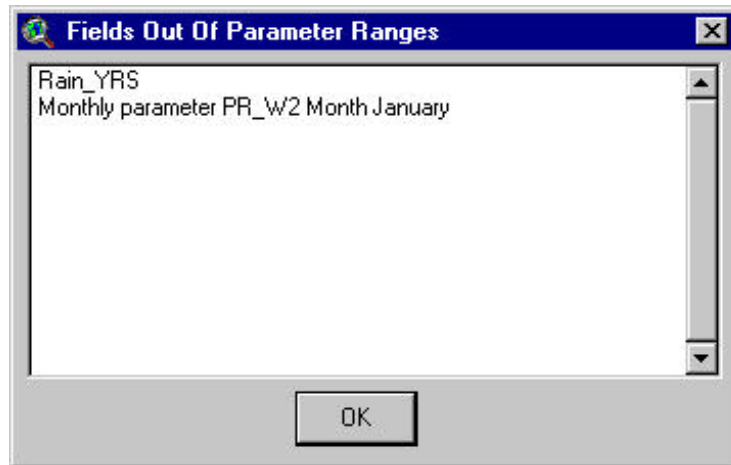

Figure 14.19
- g. A prompt box may appear notifying the user of out-of-range parameter values (Figure 14.19).